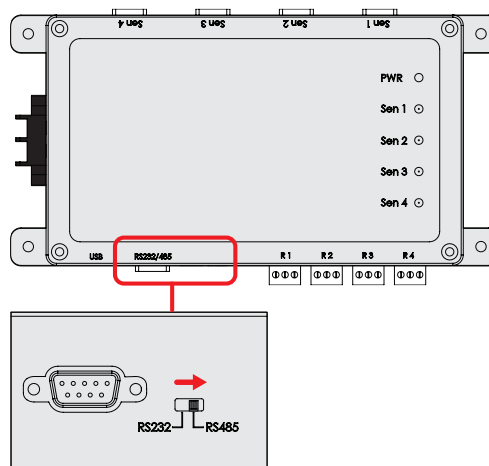

Figure 7. Changing control box output to support RS485 connection
4. Select the Serial output Switch on the control box (refer to Figure 7) to RS485.